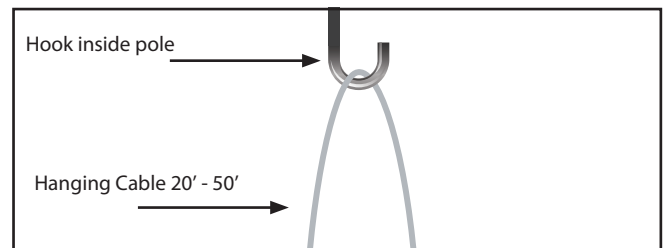

Figure 1: Hanging Cable Hook
1. Install hanging cable by first securing the cable to the hook on the inside of pole near the top of the pole or fixture. (Figure 1)